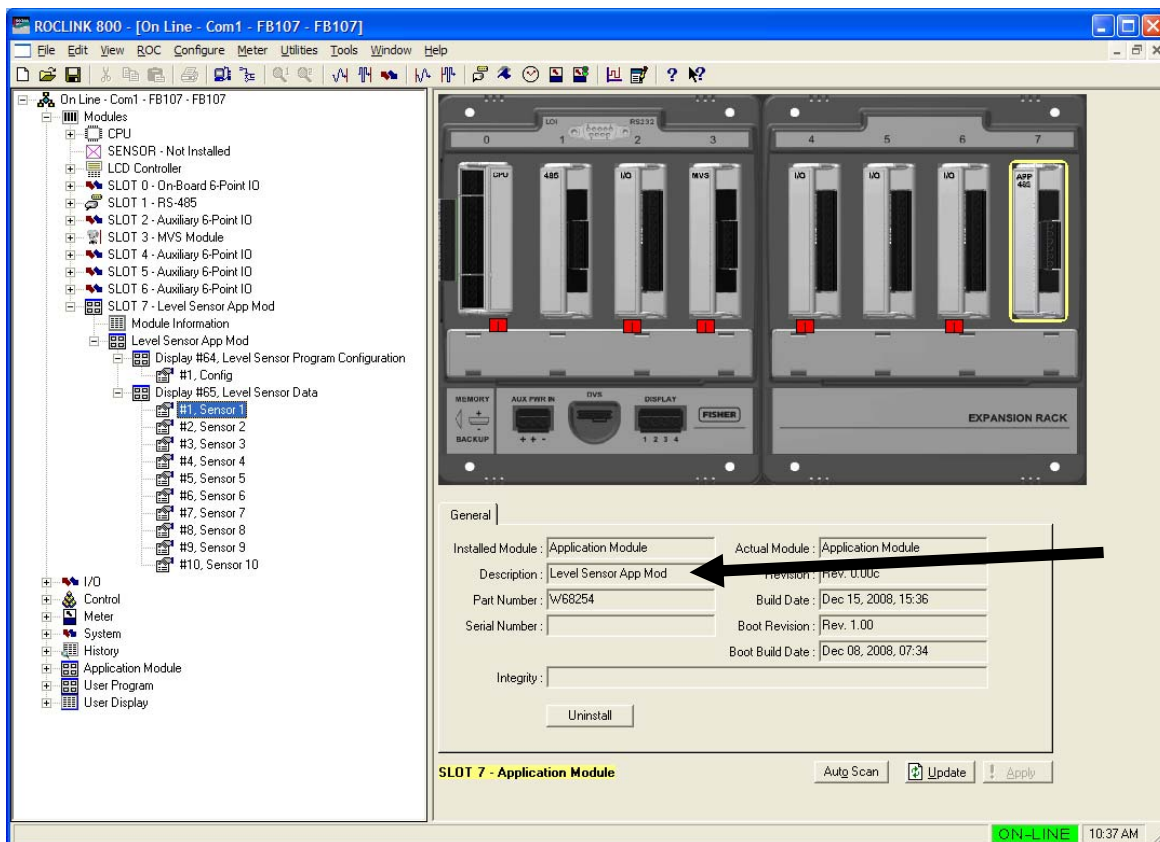

Figure 3. LS Application Module
**Note:** Although the label on the physical module is **APP 485**, the Description field on the General tab verifies that this module contains the Level Sensor Application. See *Figure 3*.